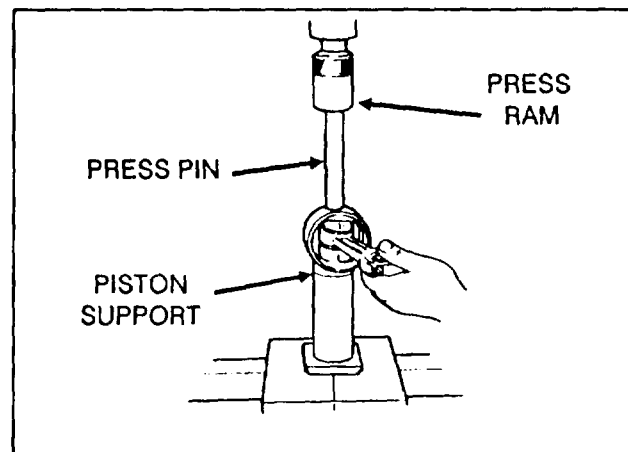

Figure 4
4. Position the piston assembly on the piston support in the press. With the press pin up as shown in Figure 4, insert the guide pin through the hole in the piston and through the hole in the piston support.
5. Press the piston pin out of the assembly (Figure 4).